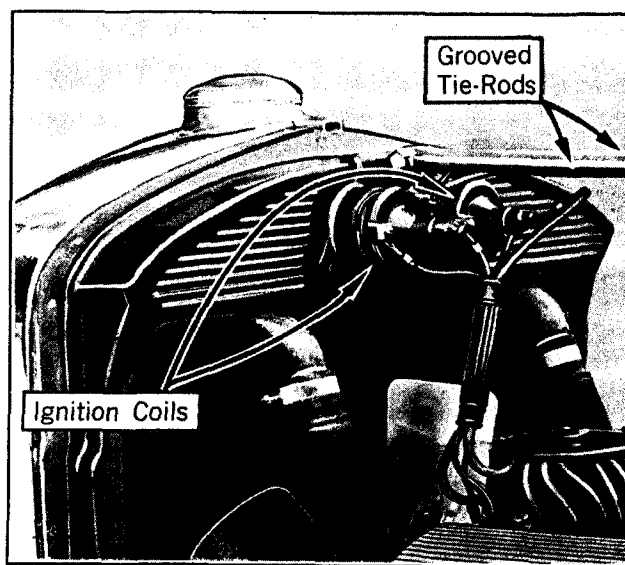

Fig. 15. The ignition coil negative terminals are connected together.
**Ignition Coils:** The two ignition coils are mounted in recesses in the upper tank of the radiator, where they are protected from moisture and excessive heat. See Fig. 15. The feed wire from the switch is brought forward in the grooved left-hand radiator tie rod and is connected to the negative side of the coils. From this point the two circuits are entirely separate.